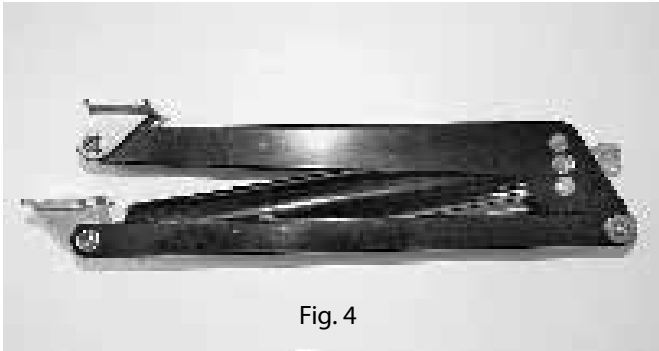

Fig. 4
- II inside the ventilation opening: see fig. 4+6